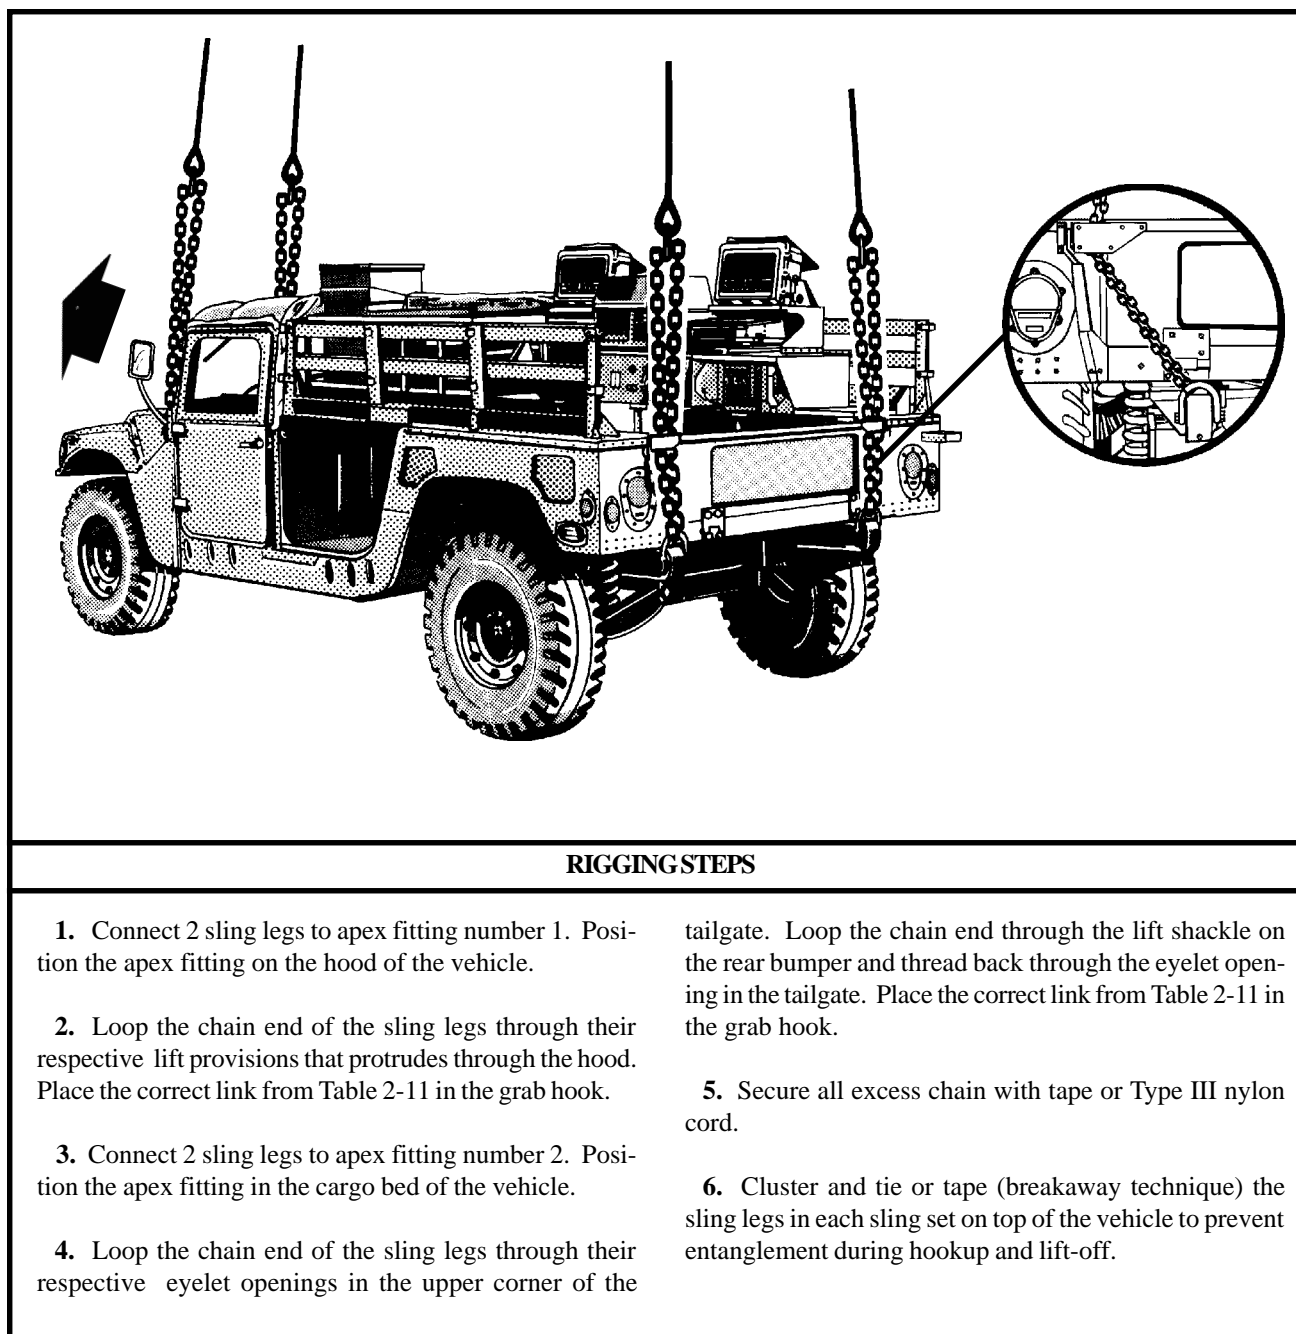

Figure 2-10. M998/M1038 With LTACFIRE/TTCS
(2) Rigging. Rig the load according to the steps in Figure 2-10.
(3) Hookup. The hookup team stands in the bed of the vehicle. The static wand person discharges the static electricity with the static wand. The forward hookup person places apex fitting 1 onto the forward cargo hook. The aft hookup person places apex fitting 2 onto the aft cargo hook. The hookup team then carefully dismounts the vehicle and remains close to the load as the helicopter removes slack from the sling legs. When successful hookup is assured, the hookup team quickly exits the area underneath the helicopter to the designated rendezvous point.
(4) Derigging. Derigging is the reverse of the preparation and rigging procedures in steps d (1) and d (2).